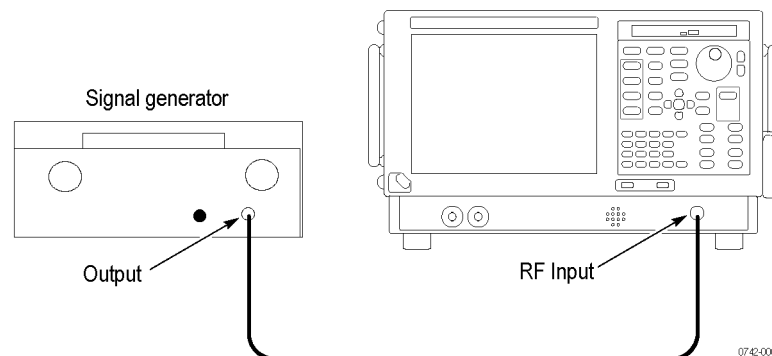

Figure 19: Equipment connections for Signal Spurious check
1. Connect the RF generator to the SPECMON analyzer RF Input. (See Figure 19.)